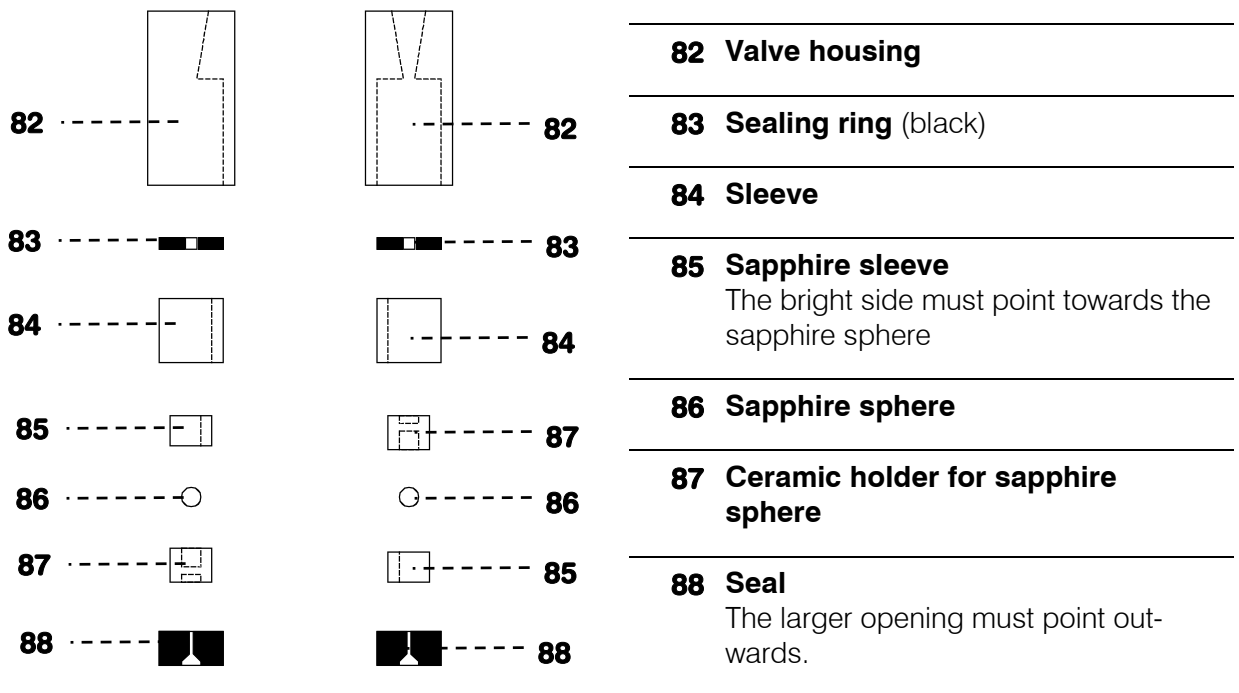

Figure 17: Components of inlet valve 77 and outlet valve 78
- If this does not have the desired effect, the valve can be dismantled as shown in *Figure 17*. The valve components must be pushed out of the housing using the tool 6.2617.020. The individual components can then be rinsed with distilled water and/or acetone, and the sapphire sphere cleaned with a paper towel. Then reassemble the valve in accordance with *Figure 17*. The components of the inlet and outlet valves are identical. They are distinguished only by the positioning of the sapphire sleeve **85** and the ceramic holder **87** (see *Figure 17*).